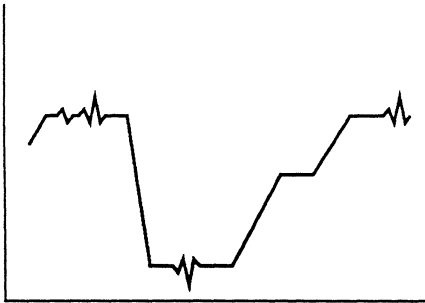
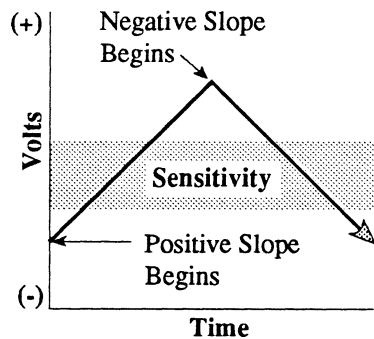

Figure 6: The analog input signal. Note the "noise" on the signal's peaks.
Figure 2 - The signal must begin outside the Sensitivity window.
Figures 6 - 8: The Volts setting was lowered to 6V which, in turn, lowered the Volts Per Level to 1.6 mV (Table 1). Decreasing the Volts setting allows the scope to begin capturing the smaller voltage deviations.
3. The signal must begin outside the **Sensitivity Window** (except for Dual Slope triggering, Figure 6) and completely pass through the window with the proper slope (Figure 2). See *page 13-7*.
Figure 6 - The signal qualified as dual slope triggers at the points shown. Dual Slope triggering ignores the Sensitivity window. Only the Source, Slope and Level requirements have to be met.